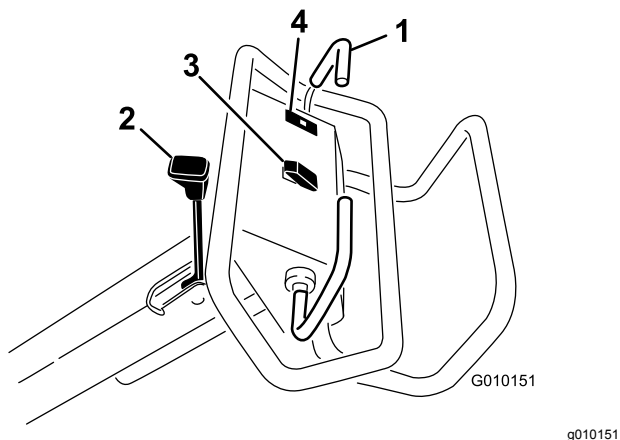

Figure 13
To move forward, move the traction lever forward. To move rearward, move the traction lever rearward (Figure 13).
To engage the parking brake, move the lever toward the engine. To disengage the parking brake, move the lever forward (Figure 13).
The oil pressure warning light (Figure 13) glows when the oil pressure in the engine drops below a safe level. If low oil pressure ever occurs, shut off the engine and determine the cause. Repair the damage before starting the engine again.
**Raise**—Press the top of the switch (Figure 13) to raise the coring head and disengage the coring head. The engine must be running to generate lift pressure. If the coring head is below the transport height, refer to Resetting the System Control Circuit \(page 25\).
**Lower/Engage**—Press the bottom of the switch (Figure 13) to lower and engage the coring head. The traction lever must be in the forward position to activate the switch.